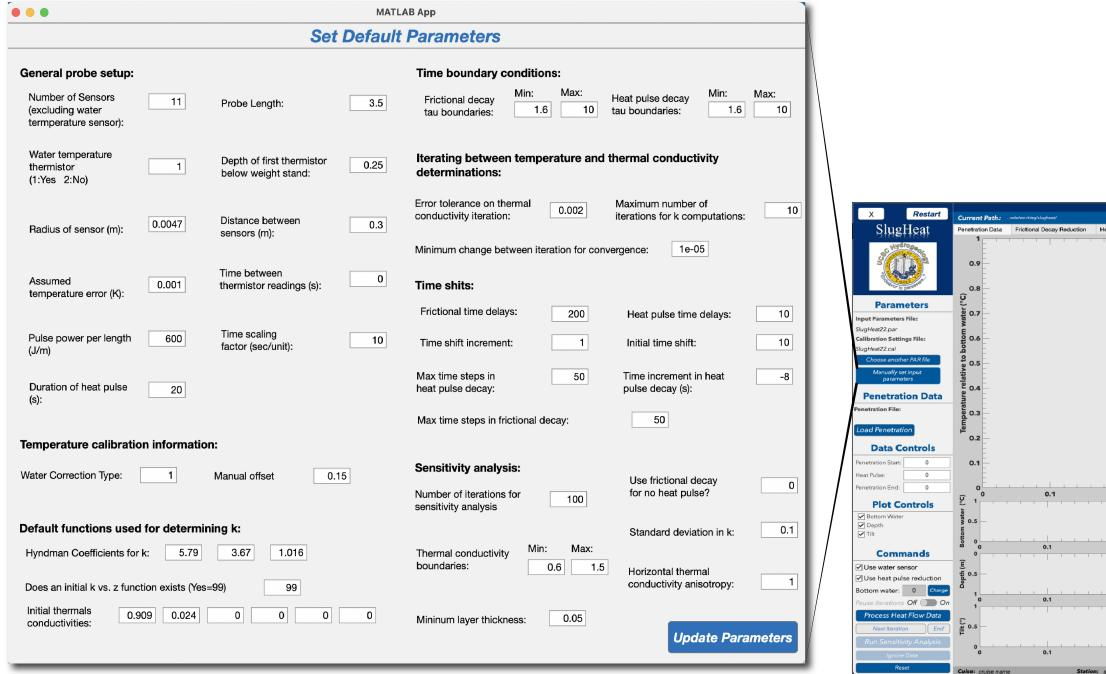

Figure 2: SlugHeat auxiliary application to inspect and modify input parameters
- To check *all* default input processing parameters and calibration parameters before processing data, either (1) check **SlugHeat.par** and **SlugHeat.cal** in a separate text editor or (2) press ‘Manually set input parameters’ button on the *SlugHeat* command window which will launch an auxiliary application within *SlugHeat* to view and adjust all input parameters. See Fig 2.
- (a) Press ‘*Manually set input parameters*’ button on top of command window to left of application, launching auxiliary application where individual input parameters can be adjusted manually. Press ‘*Update Parameters*’ button to update modified values. See Fig 2.